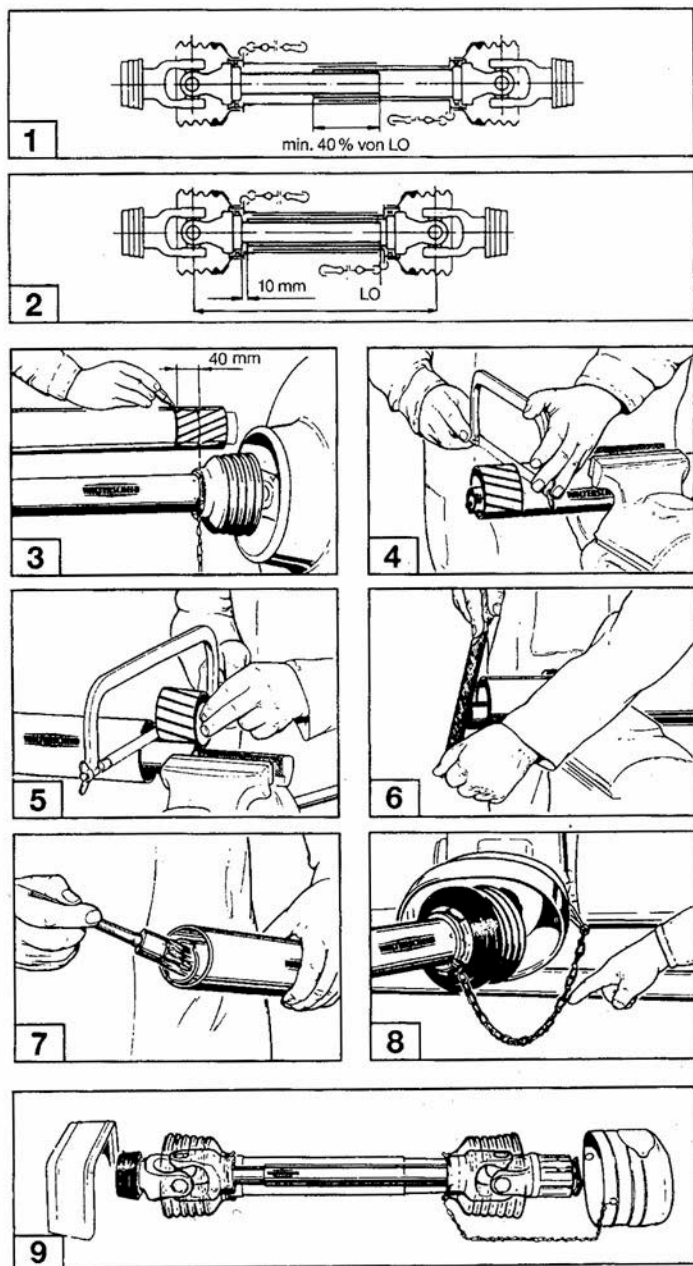

fig. 1
*During first installation adapt the PTO shaft to the tractor according to Fig. 1. As this adaptation is only valid for this particular type of tractor check or repeat PTO shaft adaptation when the type of tractor is changed.*